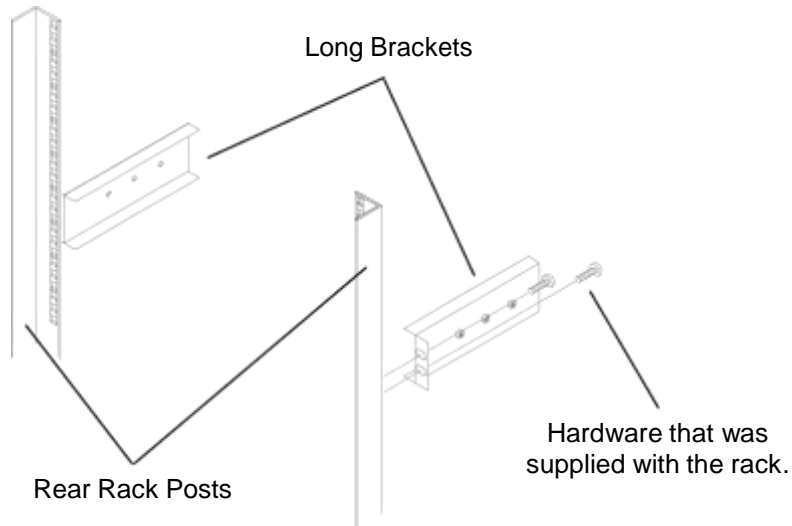

Figure 5-23 Attaching the Long Brackets to the Rear Rack Posts
3. Using the hardware that was supplied with the rack, attach one of the long brackets to the rear side of a rear rack post as shown in Figure 5-23. Repeat for the remaining bracket.